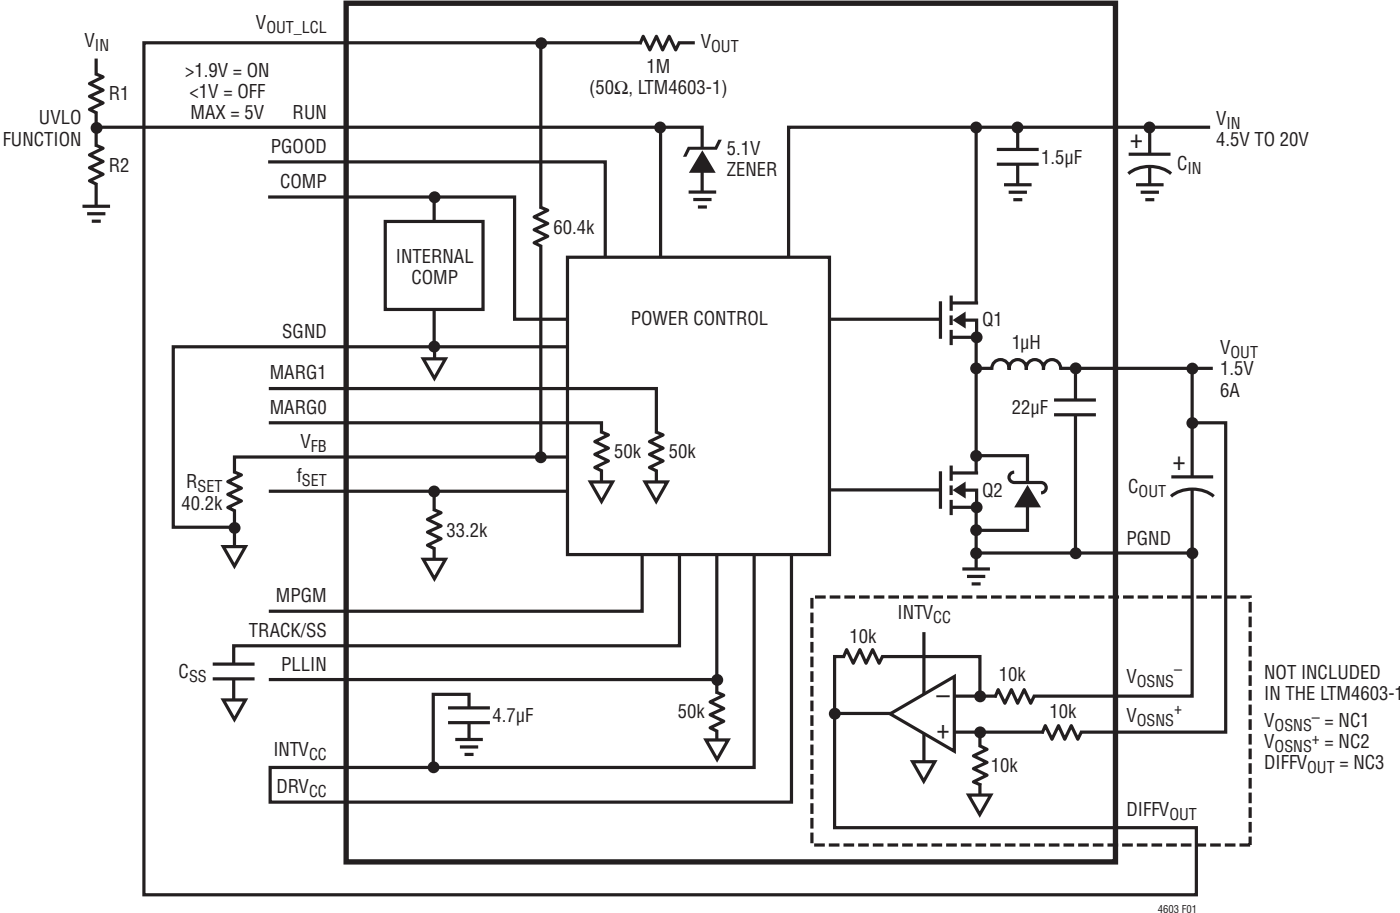

Figure 1. Simplified LTM4603/LTM4603-1 Block Diagram
**RUN (Pin A10):** Run Control Pin. A voltage above 1.9V will turn on the module, and when below 1V, will turn off the module. A programmable UVLO function can be accomplished by connecting to a resistor divider from VIN to ground. See Figure 1. This pin has a 5.1V Zener to ground. Maximum pin voltage is 5V. Limit current into the RUN pin to less than 1mA.
**DECOUPLING REQUIREMENTS**  $T_A = 25^\circ\text{C}$ ,  $V_{IN} = 12\text{V}$ . Use Figure 1 configuration.
See the Simplified Block Diagram (Figure 1).